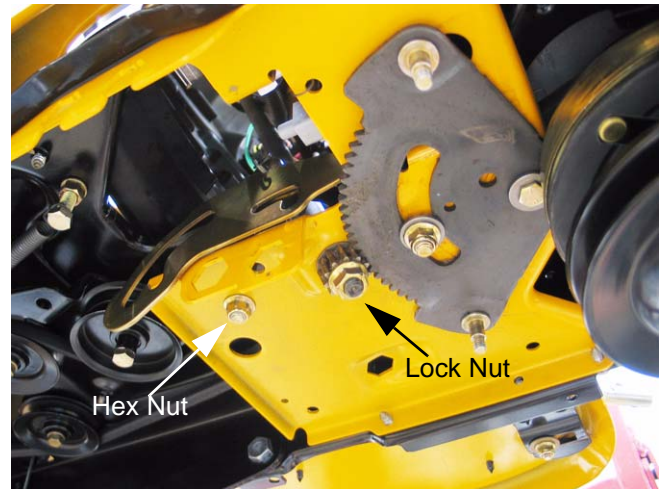

Figure 16.16
16.16. Remove the lock nut from the bottom of the steering shaft. Then slide off the steering shaft gear. See Figure 16.16.
16.17. Reaching up through the opening where the pedal shafts were, place a 9/16" wrench on the head of the bolt located in the center rear of the subframe. Using a 9/16" socket, remove the nut. See Figure 16.16.